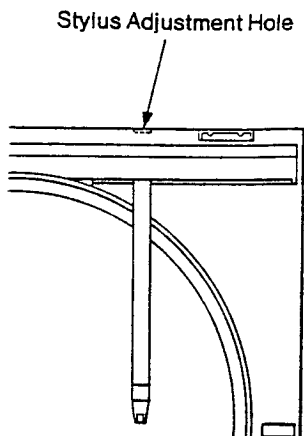

Fig. 1
3. Press ◀ button on the control panel to shift the tonearm to the place as indicated in Fig. 1.